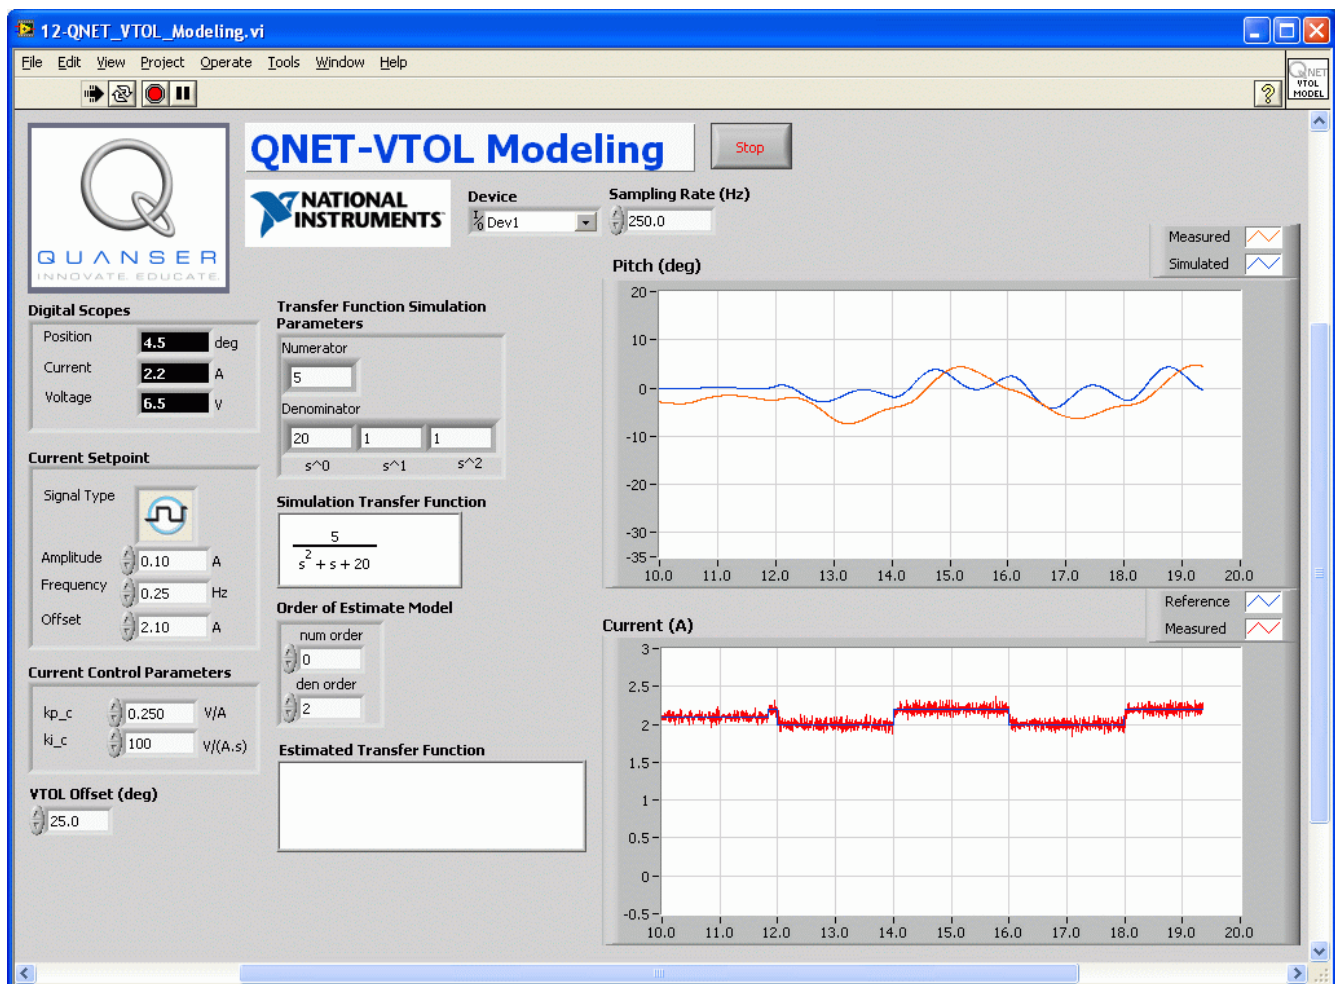

Figure 9: QNET-VTOL Modeling
4. Open the QNET_VTOL_Modeling.vi as shown in Figure 9, below.